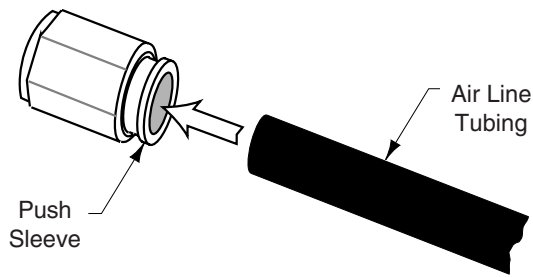

Fig. 26
- B. Run 3/8" air line from existing facility main air supply to the FRL. Run 3/8" air line from FLR to reducing tee, Fig. 26.
- C. Connect reducing tee to air valve, Fig. 26.
- D. Attach air valve to air valve bracket (or 3Ø Push Button Control Bracket when used), Fig. 26.
- H. If lift has internal air, remove plug in reducing tee and connect the 3/8" line coiled inside of runway, Fig. 26.